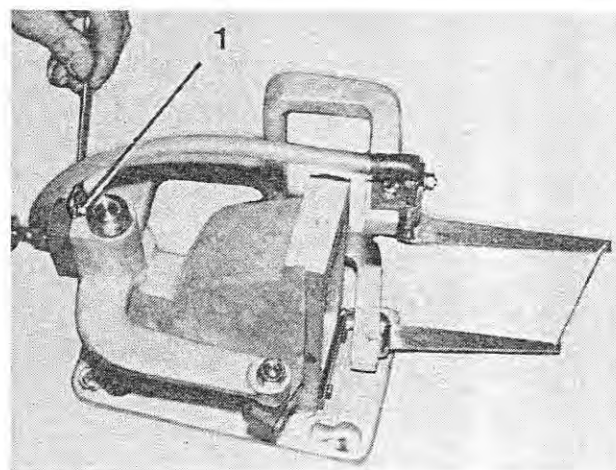

Fig. 145
10. Loosen the locking screw (Figure 145/1) of the stop ring. Pull the stop ring and the cutting bow off the axle.